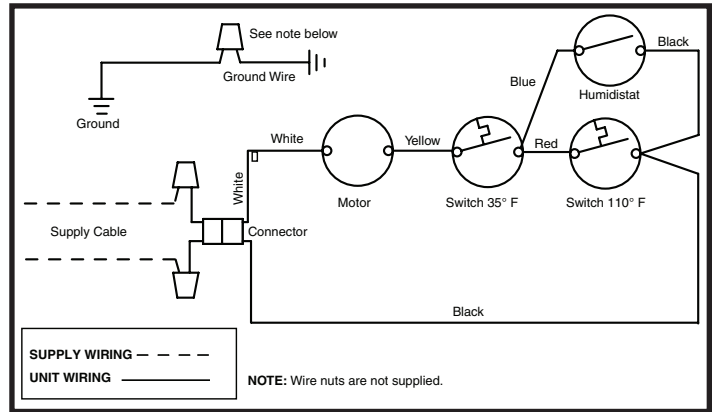

Figure 7. VentilAire™ IV Wiring Diagram
8. (VentilAire IV only) Refer to the wiring diagram. See Figure 7 (page 4).